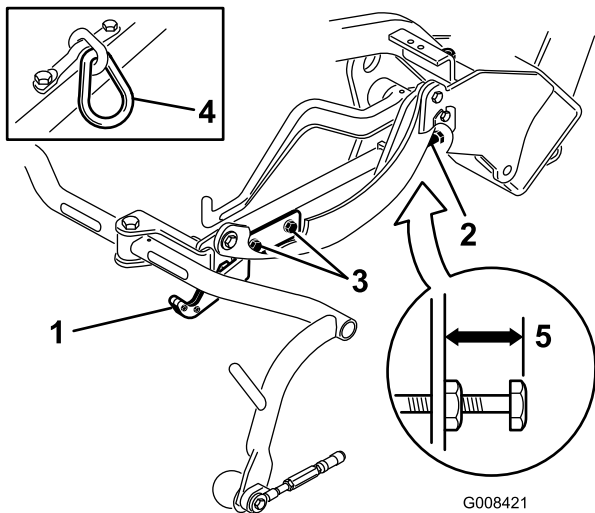
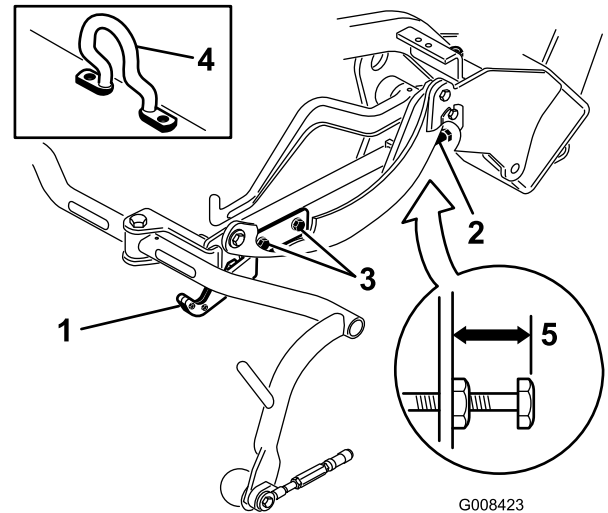
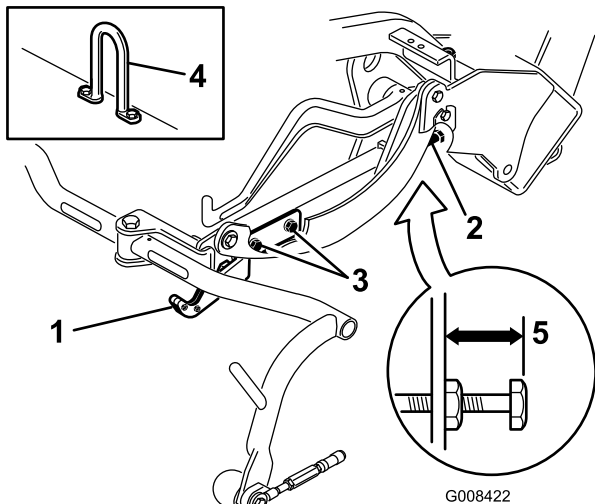

Figure 13
Figure 15
Figure 14
Check the transport height (Figure 13 & Figure 14) and adjust, if required.
2. On cutting units equipped with a chain link or a straight lift hook (Figure 13 & Figure 14, insets) verify that the distance from the top of the carrier frame adjusting screw to the back of the carrier frame is 7/8 inch (22 mm). If the distance is not 7/8 inch (22 mm), proceed to step 4. If the cutting unit is equipped with an offset lift link (Figure 15), proceed to the next step.
- Loosen the transport plate mounting screws (Figure 13, Figure 14 and Figure 15).
- If the carrier frames are not at the same height, loosen the jam nut on the carrier frame adjusting screw (Figure 13, Figure 14 and Figure 15). Rotate the screw outward to raise and inward to lower. Tighten the jam nut after the proper height is obtained.
- On cutting units equipped with a offset lift hook (Figure 15, inset) verify that the distance from the top of the carrier frame adjusting screw to the back of the carrier frame is 1 inch (25 mm). If the distance is not 1 inch (22 mm), proceed to step 4.